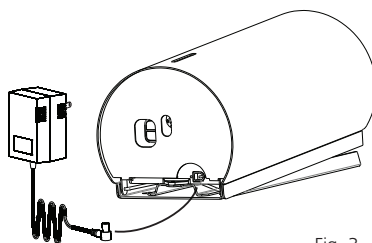

Fig. 3
2. Before fixing the mounting plate to the wall, insert the adapter plug of the transformer through the bottom of the dispenser between the mounting plate and the bottom of the housing (Fig. 3).